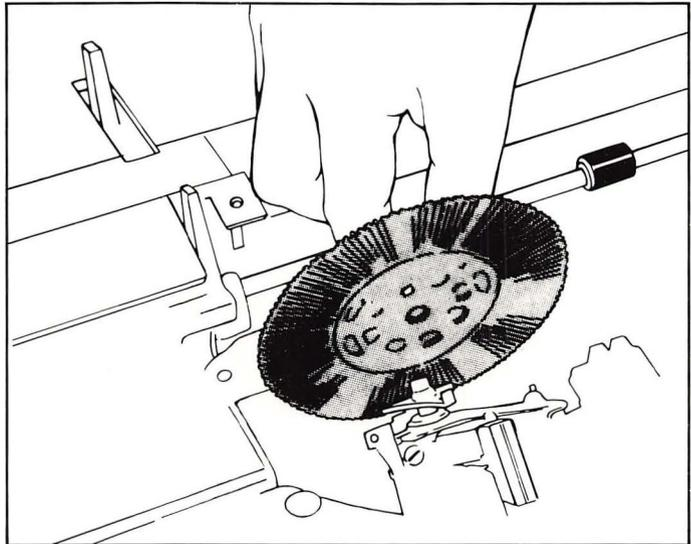

Figure 6. Aligning the Print Wheel
6. Carefully align the square cutout in the print wheel with the upturned tab on the locating plate, then press firmly on the center hub of the printwheel until it is seated on the shaft. Refer to Figure 6.